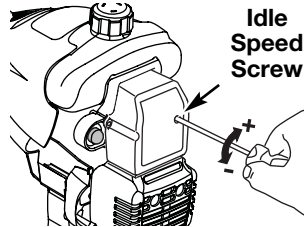

Fig. 20
The idle speed of the engine is adjustable through the air filter/muffler cover (Fig. 20).
2. Release the throttle trigger and let the engine idle. If the engine stops, insert a small phillips or flat blade screwdriver into the hole in the air filter/muffler cover (Fig. 20). Turn the idle speed screw in, **clockwise**, 1/8 of a turn at a time (as needed) until the engine idles smoothly.